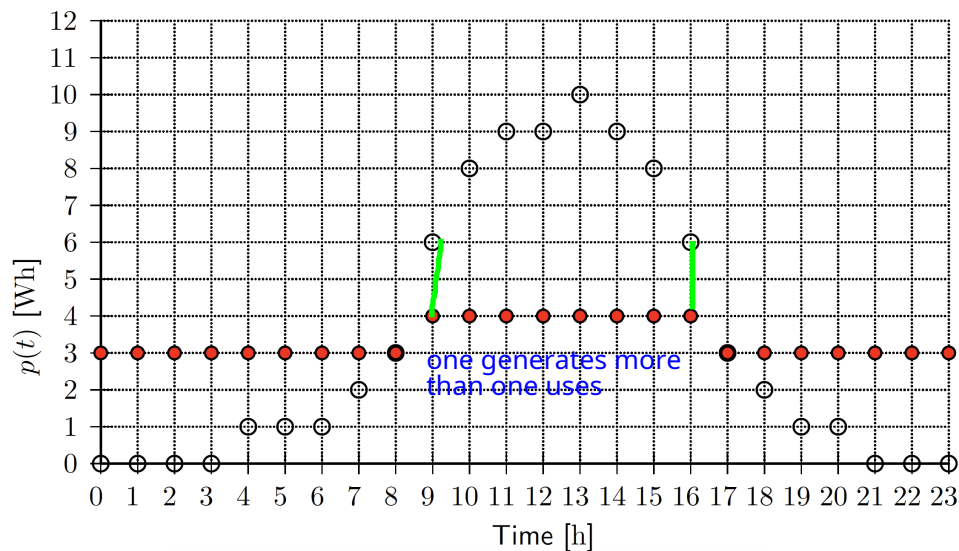

Figure 5: Application Control, Task (b)
- (b) (8 points) Suppose now that  $B = 33 \text{ Wh}$ . The harvested energy function  $p(t)$  is given in Figure 5. Determine an optimal energy usage function  $u^*(t)$  that maximizes the utility and never leads to failure state. Draw  $u^*(t)$  into Fig. 5.
- During the time interval with surplus energy ( $t \in [9, 16]$ ) we can increase the use function to  $u(t) = 4$  without violating any feasibility constraint and still achieving a full battery at time 17. Red dots in Fig. 5 represent  $u^*(t)$ .